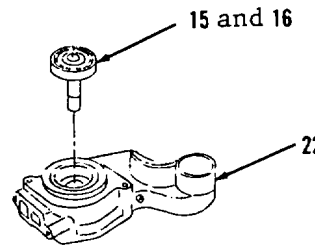

Figure 3-190.
14. Remove items 15 and 16 as an assembly from housing (22, Figure 3-190).